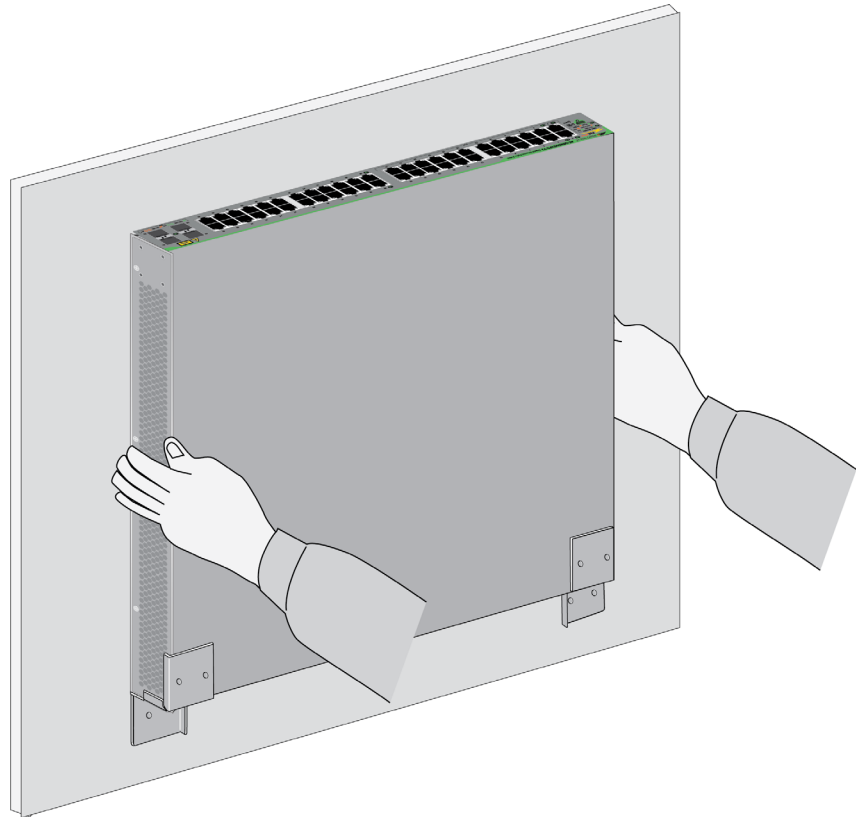

Figure 38. Sliding the Switch into the Bottom BRKT-J22 Brackets
7. Slide the bottom panel of the switch into the brackets. Refer to Figure 38.